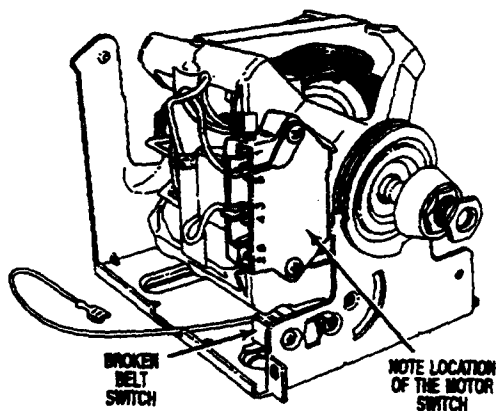

FIGURE 3
- Position motor as shown in Figure 3. Note the location of the motor switch. Secure motor to bracket with the original motor clamps.